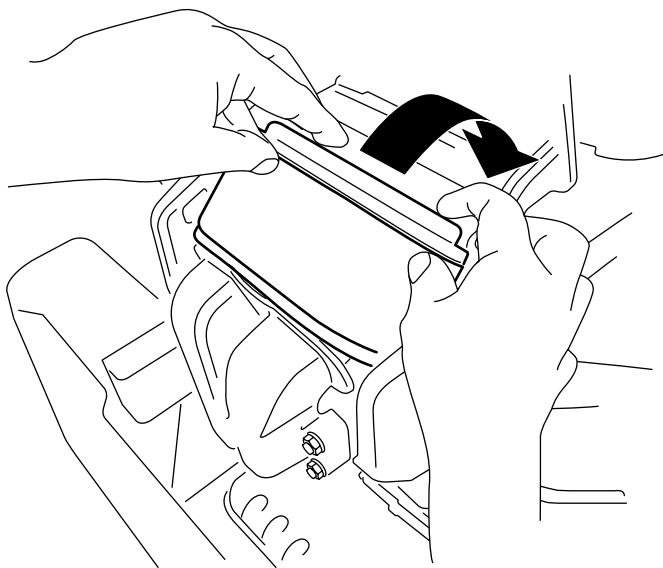

Figure 41
3. Rotate the filter down into the chamber and fully seat it against the manifold (Figure 41).